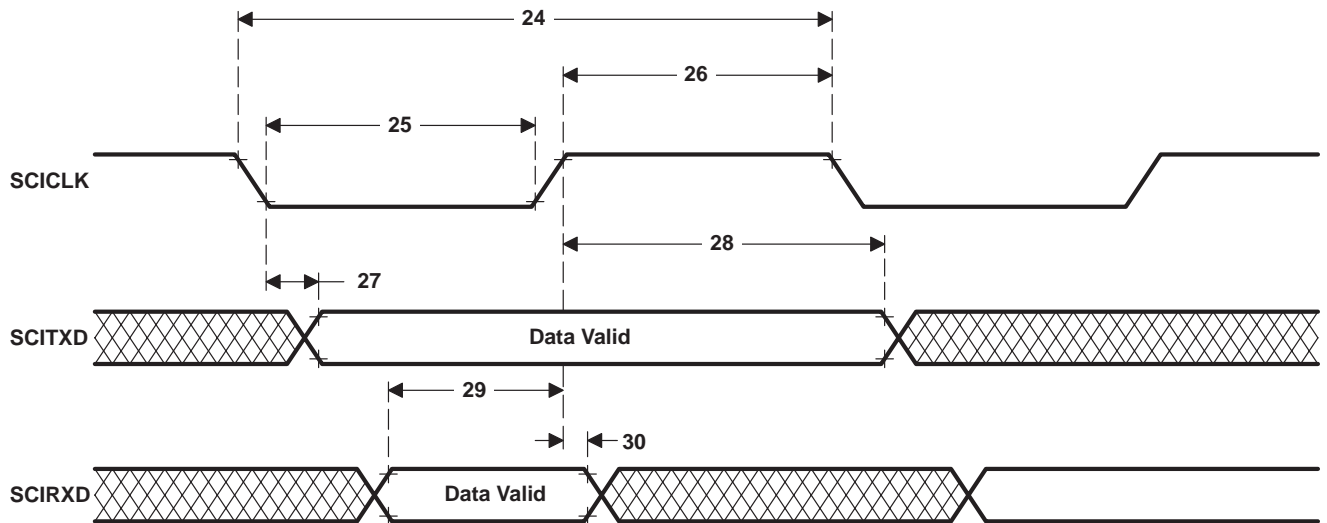

Figure 26. SCI1 Isosynchronous Mode Timing for Internal Clock
**SCI1 isosynchronous† mode timing characteristics and requirements for internal clock (see Note 12 and Figure 26)**